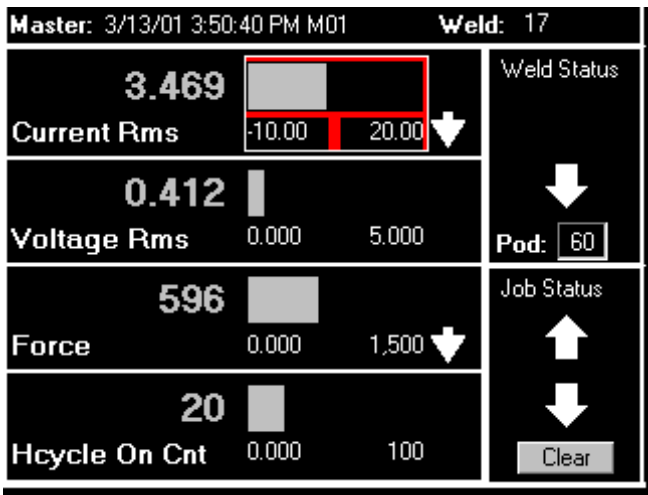
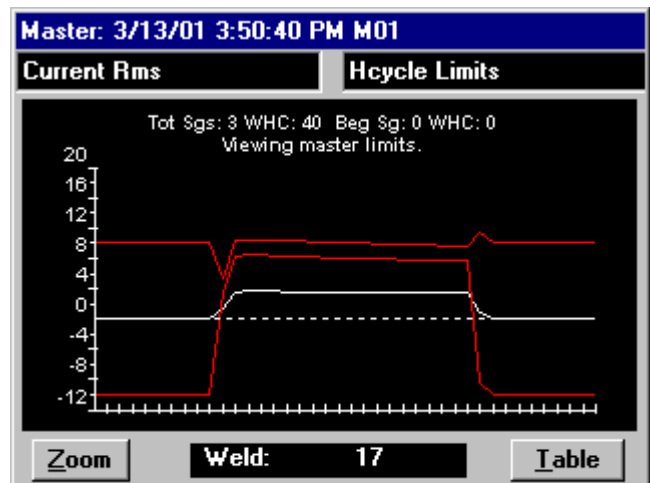

Figure 5-21 Main program screen displaying a REJECTED weld (**Current Rms**, etc. too low)
Figure 5-22 Halfcycle Summary for REJECTED weld
8. The **Weld Status** box should display flashing arrows, indicating a REJECTED weld, as shown in figure 5-21. Go to the **Halfcycle Summary** screen. It should look similar to figure 5-22. Notice that the **Current Rms** line is below the lower tolerance boundary, causing a REJECTED weld.